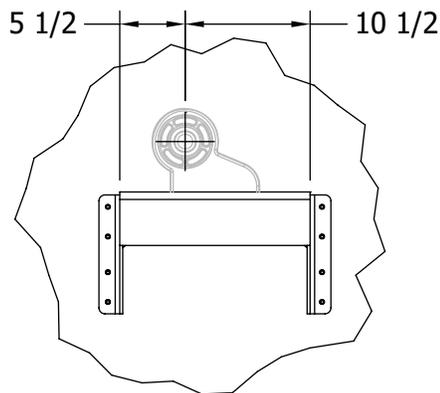

Figure 26-2
- 1) **Figure 26-2.** Drill eight 3/8" holes using the mounting bracket as a template for the hole locations.